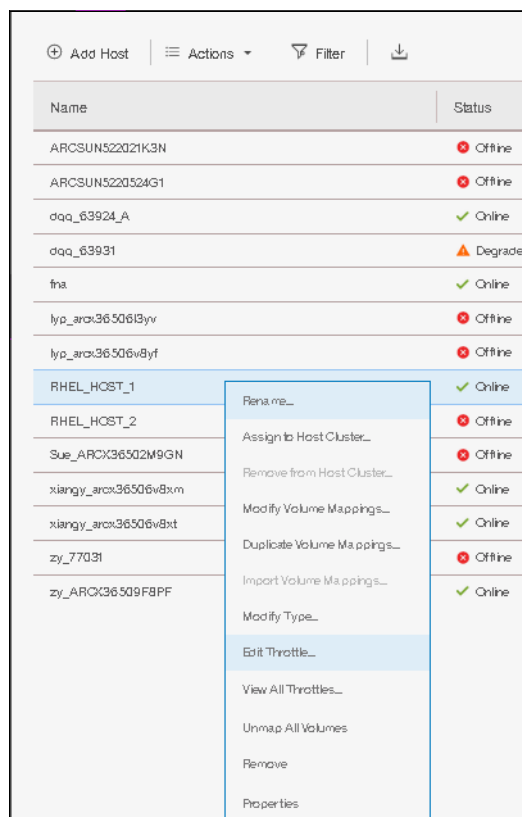

Figure 5-114 Selecting Edit Throttle option
2. Right click on the desired host and select **Edit Throttle** as shown in Figure 5-114.